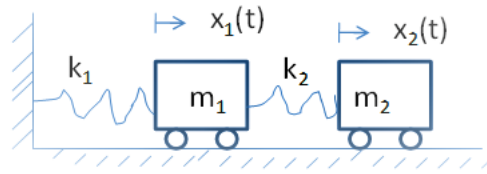

Figure 1
5. An undamped two DOF system shown in Figure 1 has mass $m_1 = m_2 = m$ and stiffness $k_1 = k_2 = k$. Determine its frequencies and mode shapes. [14M]